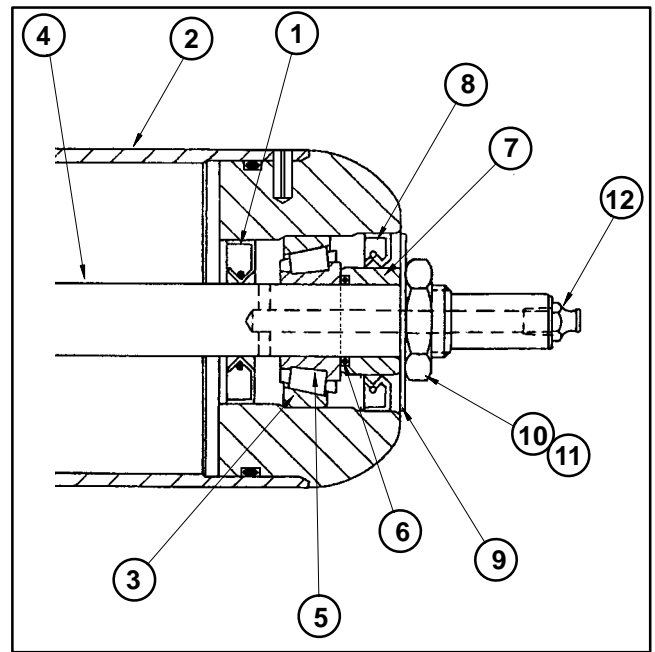

Figure 29
2. On the front roller, press **new** inner grease seals into the roller tube with the garter spring of the seal facing away from the center of the roller (Fig. 29).
11. On the front roller, press **new** outer grease seal into the roller with the garter spring of the seal facing away from the center of the roller (Fig. 29).